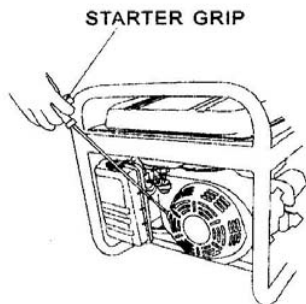

Figure 8- Pulling the start cord
6. Pull on the recoil starter handle slowly until a slight resistance is felt (see *figure 8*). Then pull quickly to start the engine. Return cord gently into the machine. Never allow the cord to snap back.